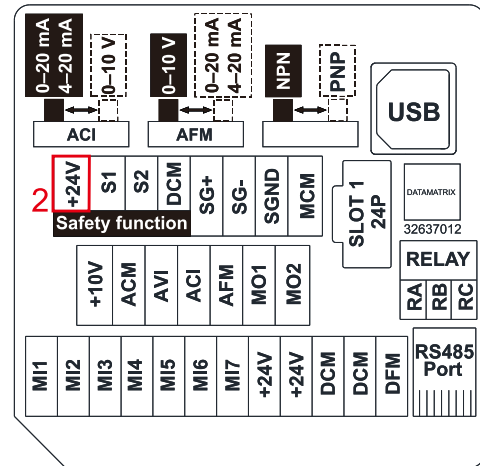

Figure 6-7 Control Terminal Location Diagram
9. Use the +24 V_{DC} power supply of the safety function (as shown in Area 2 in Figure 6-7) for STO only. Do NOT use it for other purposes.